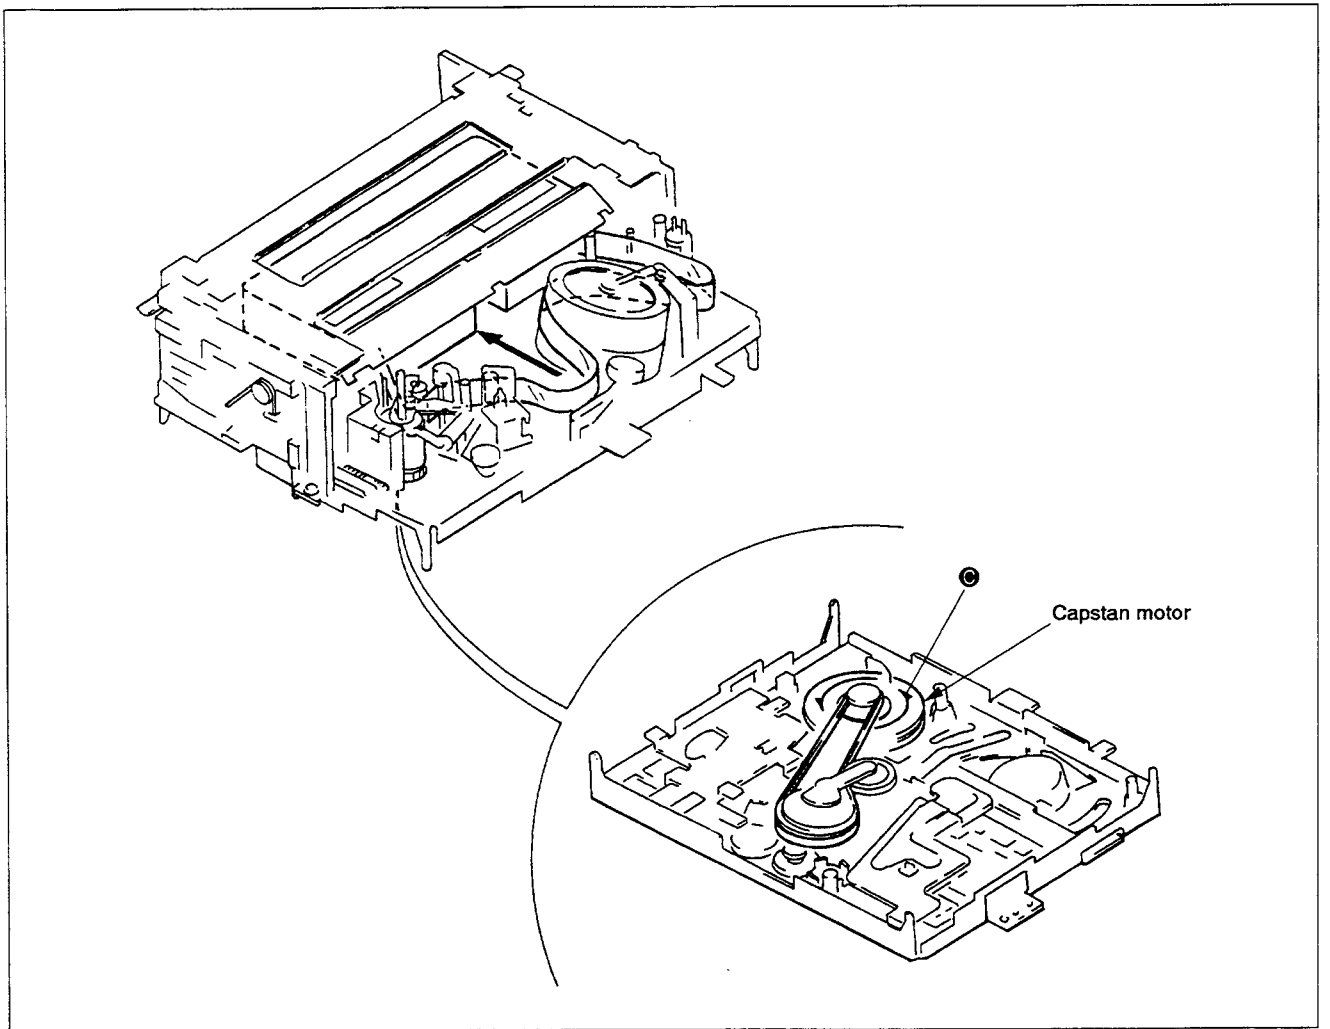

Fig. 1-3
**Note:** That tape is not caught at pinch roller. (Fig. 1-3)